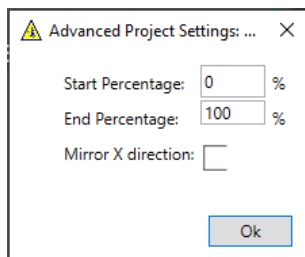

Figure 3-38 Project advanced window
When a Project file is imported or opened for the first time, or, after selecting it for a project, when you select **Advanced**, the Advanced Settings window pops up, see Figure 3-38.
1. Select the **Start Percentage** and **End Percentage**, see Figure 3-38. This determines the part of the project in x-direction that will be exposed. Normally, this is 0% and 100%.